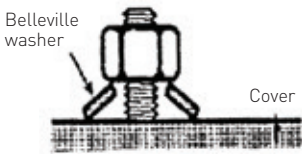

FIGURE 2
Belleville washers are used to reduce the need to retorque nuts. This is especially important for gages subject to pressure and/or thermal cycling. The conical washers allow for material expansion and contraction while maintaining axial bolt loading and, therefore, compression on the gasket. Model RM & RMR gages require 4 washers per nut; model TM, TMR gages require 2 washers per nut (4 per bolt). Washers should be assembled with cupped side facing the gage cover. Refer to Figure 2 for proper washer assembly.
4. For transparent belleville style gages, thread nuts on stud, place two belleville washers under nut with pointed end toward the nut (see Figure 2), insert stud through each cover and lay out covers along bench, side by side, with liquid chamber. Use chamber to space covers and line them up with vision slots.
- A. For transparent belleville style gages: install nameplate and two belleville washers under each nut with pointed end toward the nut (see Figure 2). Finger tighten nuts.
- B. For reflex belleville style gages: install nameplate and four belleville washers under each nut with pointed end toward the nut (see Figure 2). Finger tighten nuts.